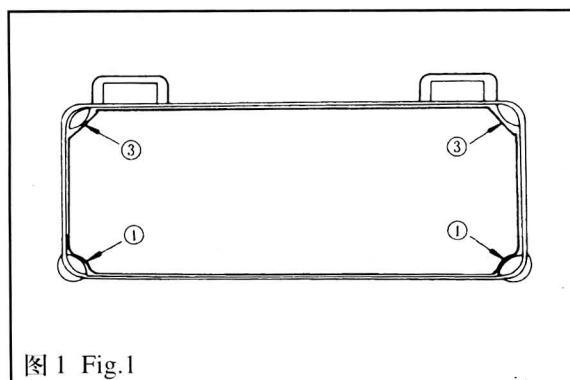
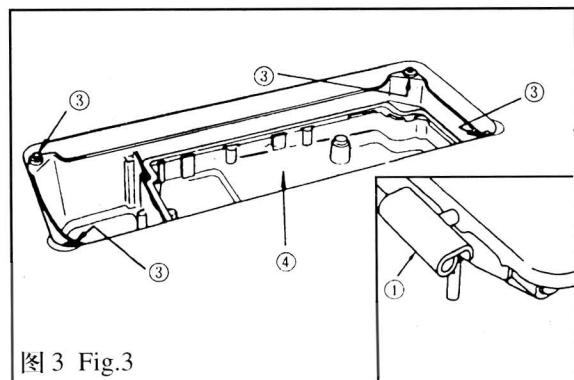
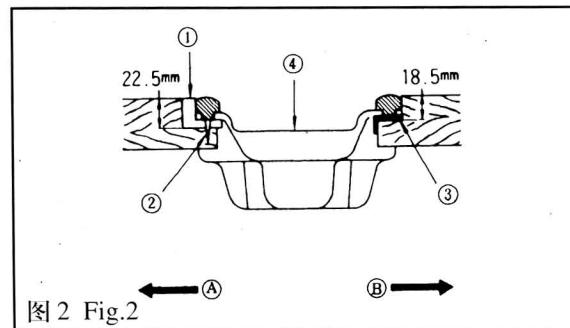
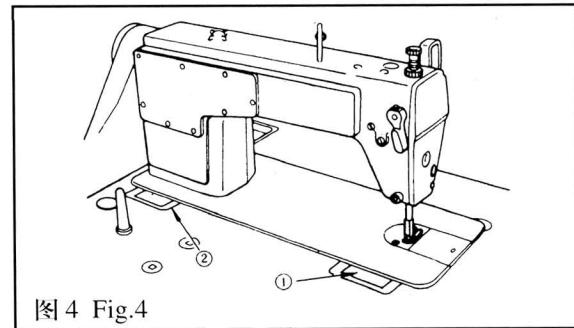

图 1 Fig.1
图 3 Fig.3
图 2 Fig.2
图 4 Fig.4
1. 机器的安装(图 1、图 2、图 3、图 4)
1. INSTALLATION (Fig.1, Fig.2, Fig.3, Fig.4)
- 2) 如图所示, 将两只油盘支座①用油盘座钉②固定在 A 一边 (朝操作者一边), 将两只油盘座垫③用油盘座钉②固定在 B 一边 (用机头连接钩接合一边), 最后把油盘④放在其上。(图 1、图 2)
- 3) 将机头连接钩①放入底板孔内, 与台板的机头连接钩座②相嵌合, 再将机头放到四只角的机头座垫③上。(图 3、图 4)
- 2) Fix two rubber seats ① on side A (operator's side) using nails ② as illustrated above.
Fix two cushion seats ③ on side B (hinged side) using nails ② . Then place oil pan ④ on the fixed seats. (Fig.1, Fig.2)
- 3) Fit hinge ① into the opening in the machine bed, and fit the machine head to table rubber hinge ② before placing the machine head on cushions ③ on the four corners. (Fig.3, Fig.4)